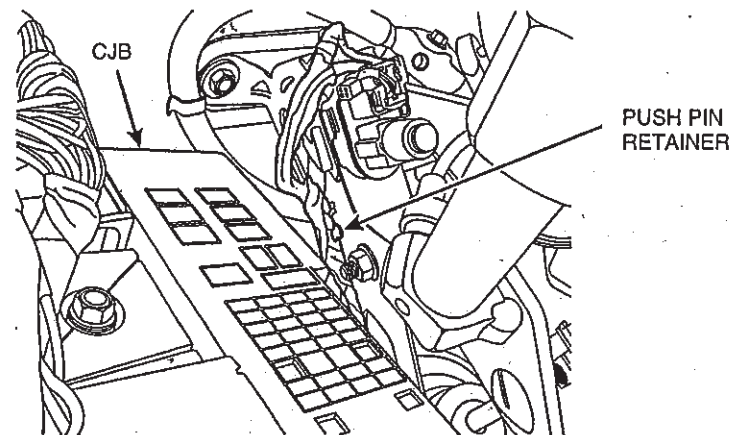

FIGURE 3
4. It is possible that on some vehicles which had the TSB performed, the splice may be located very high on the harness and access can be limited. For additional wire length disengage the harness push pin retainer located on the left side of the brake pedal bracket - next to the central junction box (CJB) (refer to Figure 3).